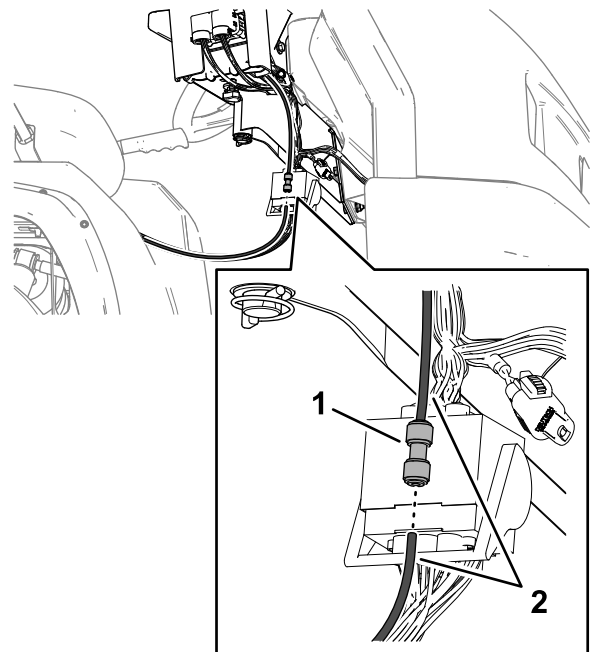

Figure 96
5. Remove 1 of the pressure-sense tubes from the push-to-connect fitting as shown in Figure 96.